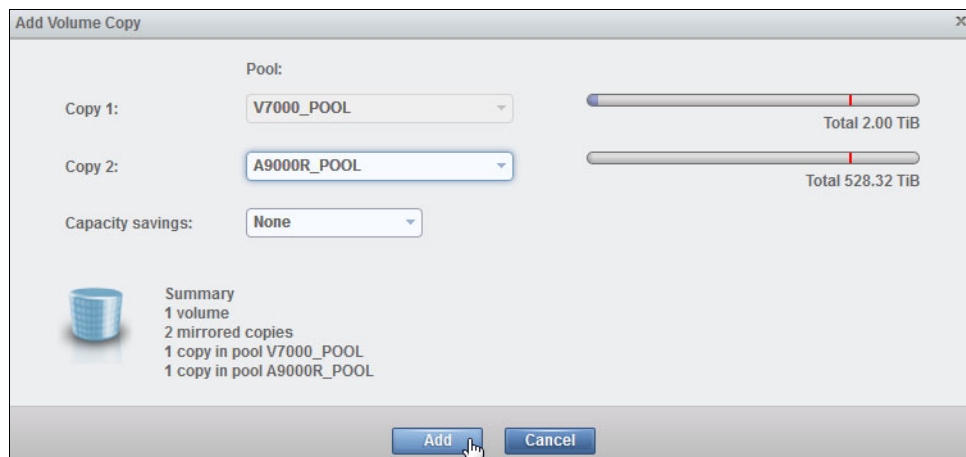

Figure 5-5 Add Volume Copy window
2. When the Add Volume Copy window opens, select A9000R_POOL as the pool for Copy 2, and click **Add Copy**, as shown in Figure 5-5.